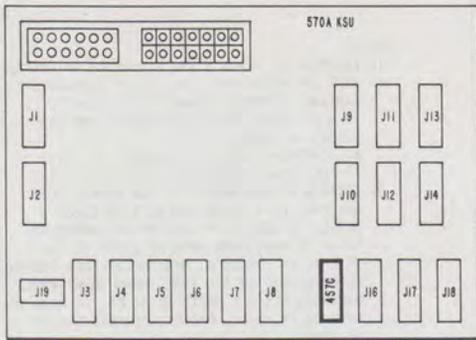
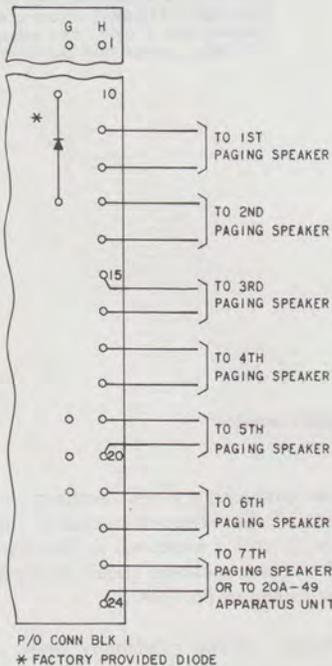

Fig. 38—Location of 457C KTU, Paging Amplifier
Fig. 39—Connections For Paging Speakers (or 20A-49 Apparatus Unit)
- (1) Install 457C KTU in J15. See Fig. 38 for KTU location.
- (2) If background music is provided, install the 33A voice coupler according to 4.36.
- (3) Connect paging speakers as shown in Fig. 39. Speaker wiring should be run separately and not a part of a voice cable. Quad inside wire should be used with both pairs connected. (Where it may become necessary to "stack" wires